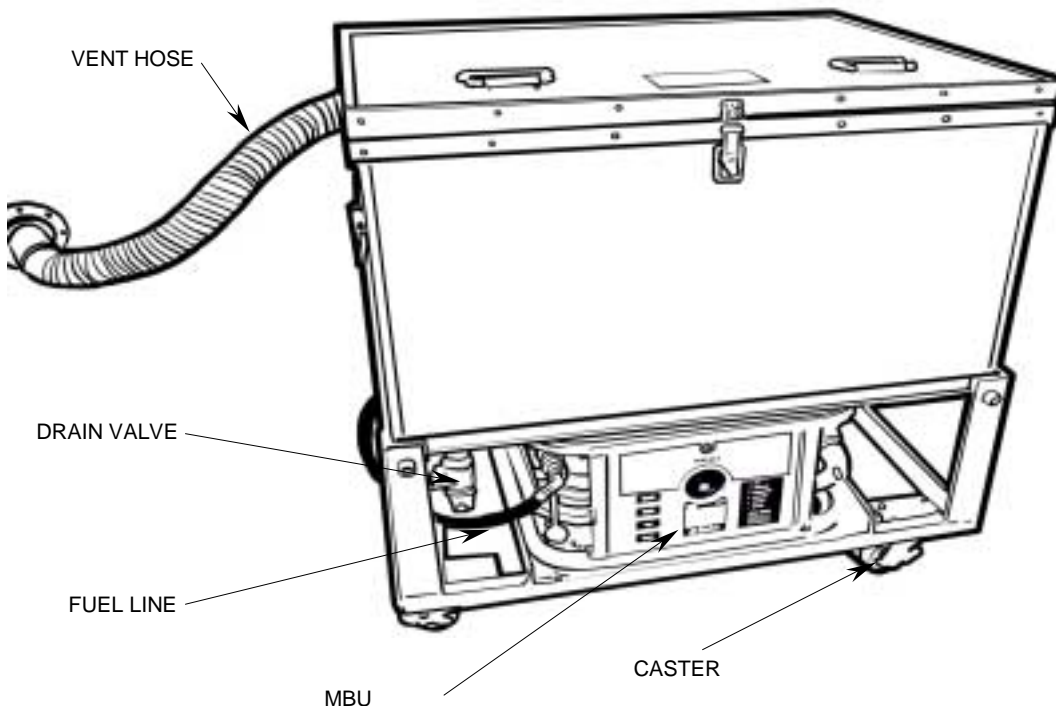

Figure 1. Tray Pack Heater Components.
**Caster:** See Figure 1. Drain the Tray Pack Heater. Support the Tray Pack Heater with a wooden block in the vicinity of the caster while the caster is being replaced. Remove the four bolts and the damaged caster. Install the new caster and mounting hardware.
**Drain Valve:** See Figure 1. Drain any liquid from the Tray Pack Heater. Remove the drain valve and replace using pipe joint compound (WP 0051 00, Table 1, Item 3) as required.